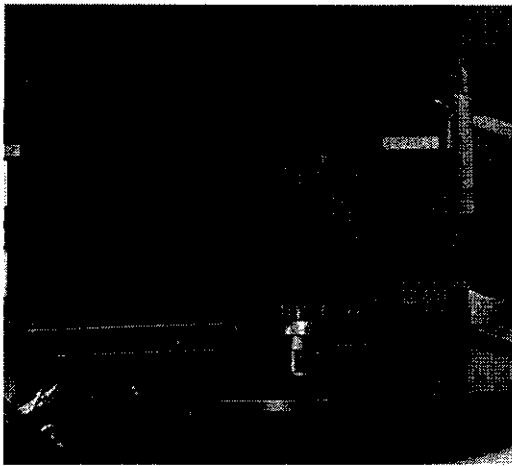

Figure 2-G
6. Place carbon filters horizontally in the appropriate location (Figure 2-G).